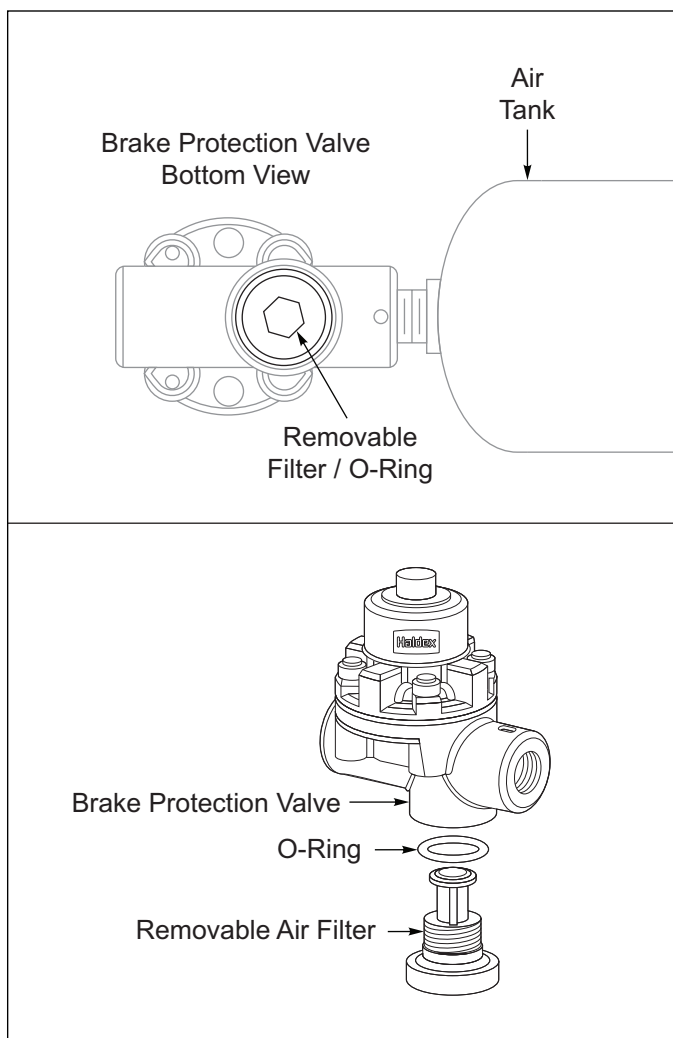

Figure 4-3: Brake Protection Valve Filter
3. Check the brake protection valve filters every 3 months or when the air flow becomes restricted, **See Figure 4-3.**